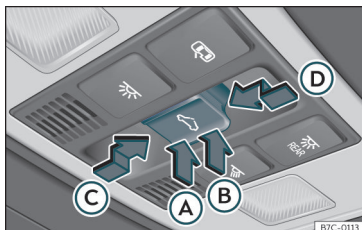

Fig. 89 On the interior roof lining: sunroof button.
The  button **Fig. 89** has two levels. The first level switches the sunroof to the tilted position, opening or closing it fully or partially.
the  button»» Fig. 89 to the second level in the direction of arrow»» Fig. 89 ① until the sunroof closes completely.